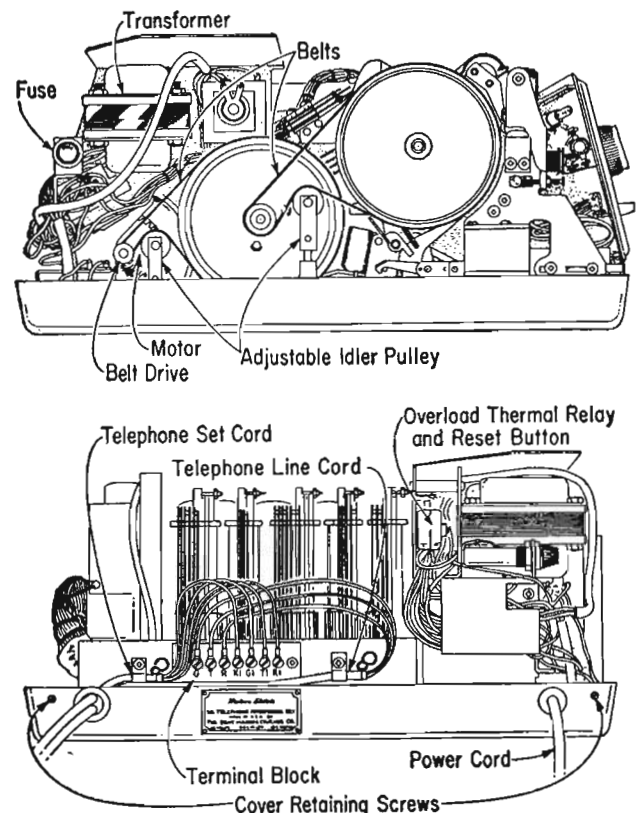

Fig. 1
- 3.04 The set is protected by means of a 2-ampere fuse which is located inside the cover of the set at the left rear corner near the motor (Fig. 1). Should the machine fail to operate and the Bell System medallion does not light, this fuse should be checked. The fuse is a No. 312002—2-ampere—Littelfuse or equivalent.
- 3.05 An overload thermal relay is also used to protect the erasing coils in case of failure of operating contacts to open. Such a failure would cause the relay to operate, opening the main power supply circuit. If the machine fails to operate after checking the power supply and fuse, press the reset button on the relay (Fig. 1). The erase coil circuit in the 1AA Set and modified 1A Set is protected only by the overload thermal switch (Klixon).
(e) Insert telephone set mounting cord through split rubber grommet and terminate on answering set connecting block as shown in Fig. 1. It may be necessary to cut the rubber grommet. A four-conductor cord must be substituted for existing telephone set mounting cord in all cases.
(f) Use a suitable mounting cord between the 42A connecting block or 531C subscriber set and connecting block in the answering set. Mount 531C subscriber set as covered in Section C31.145. Terminate as shown in Fig. 1.